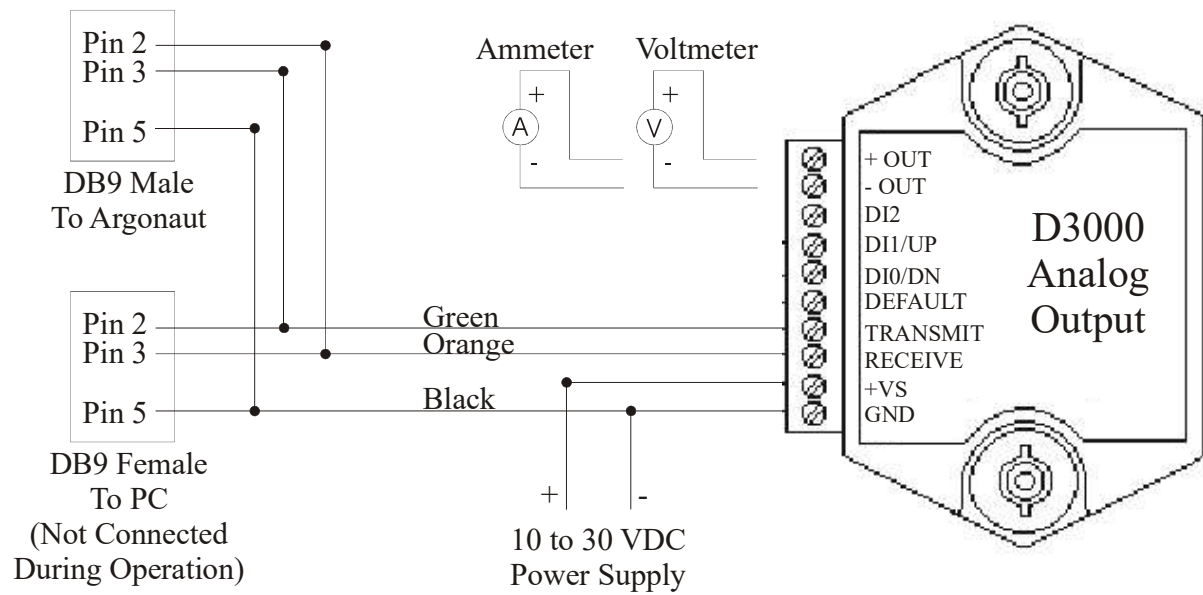
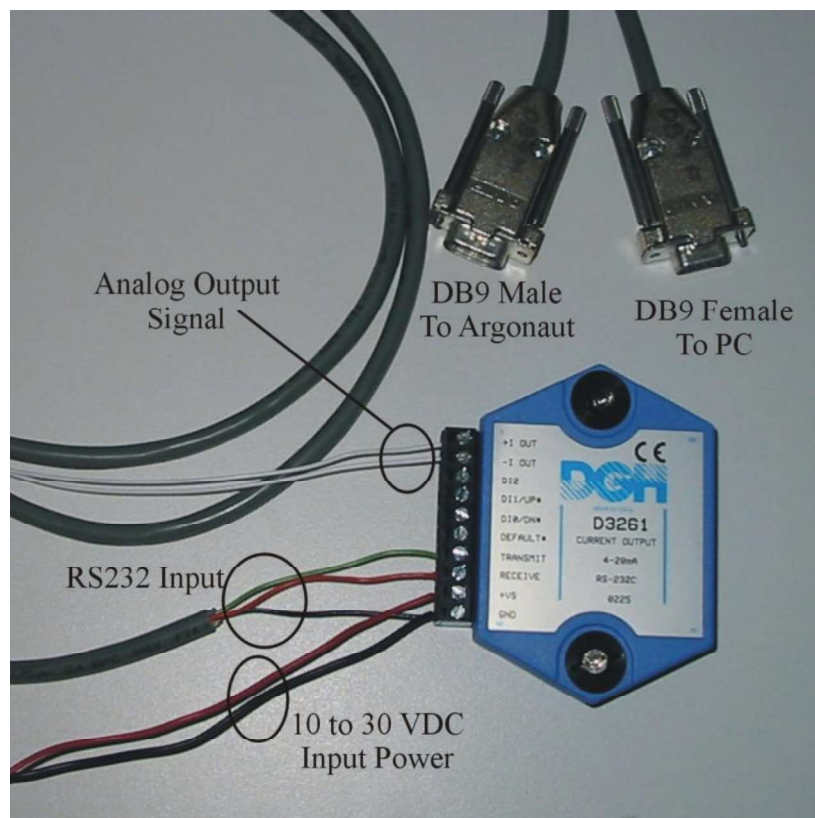

Figure F-1. AO Converter and Wiring: Schematic Drawing
Figure F-2. AO Converter and Wiring: Sample Photograph
Figure F-1 shows a schematic drawing of the AO converter and AO adapter cable; **Figure F-2** is a picture of the cable. Both these figures represent the use of only one AO converter.
- When using one AO converter, the converter is connected to the AO adapter cable as shown in Figure F-1.